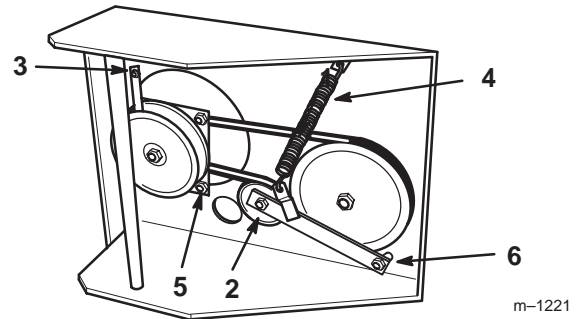

Figure 35
8. Torque pivot bolt to 35–40 ft-lb. (47-54 N•m). Install tension spring between idler arm and frame bracket (Fig. 35).
4. Remove left front engine mounting bolt securing clutch retainer to frame (Fig. 35). Unhook retainer from clutch and remove retainer.
5. Unhook tension spring from side of frame (Fig. 35).